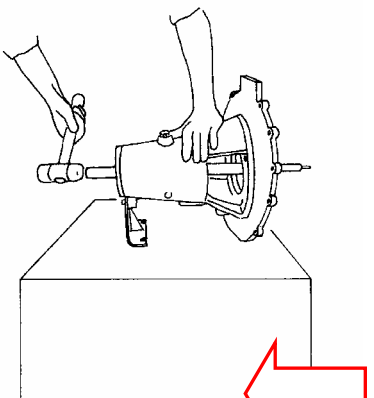

Fig. 7
- 10) Extract the seal-flange (pos. 47) from the body lid (pos. 7) by pressing with your fingers or by using a rubber hammer and tapping delicately **fig. 7**.